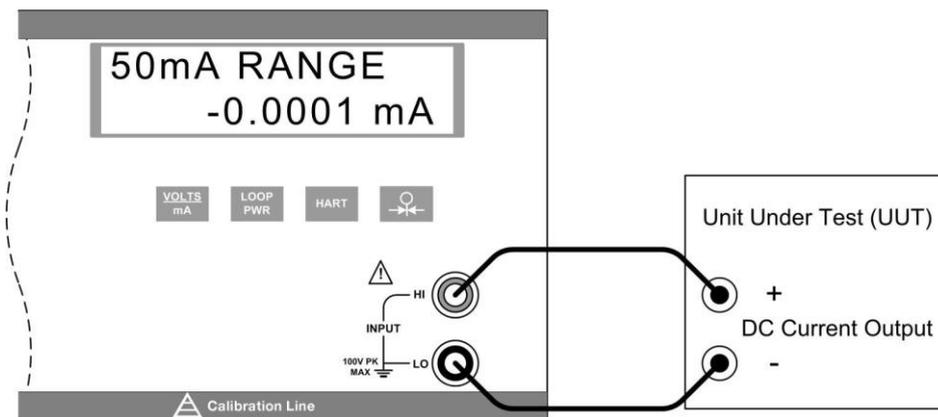

Figure 18 - Isolated DC Current Input Connection
- c) Connect the unit under test to the isolated voltage/current input terminals of the CED 7000 as shown in figure 18.